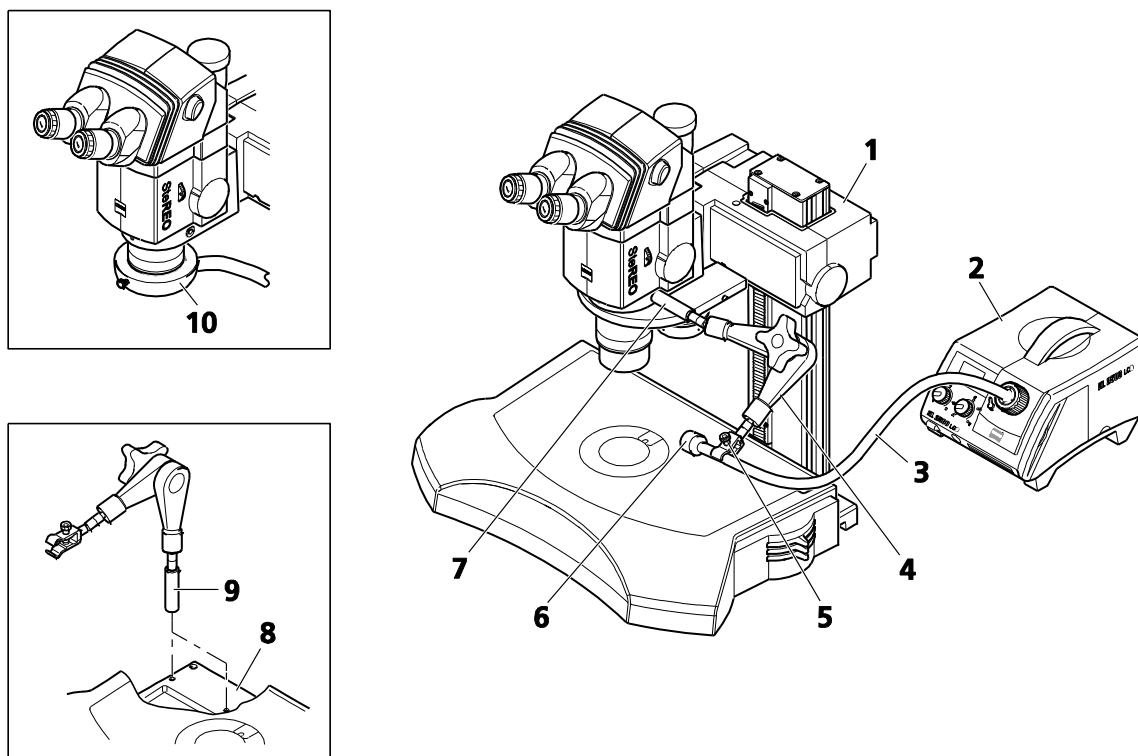

Fig. 12 Installing the incident-light illuminator
- **Flexible light guide with focusing attachment** (Fig. 12/3 and 6):
To be fastened to objective nosepiece, microscope carrier or stand base (Fig. 12/8) by means of the articulated arm and the clamp.
- **Fiber-optical ring illuminators and LED ring illuminators** (Fig. 12/10):
- Screw in the spacing rod (Fig. 12/7), if necessary.
- Hold the articulated arm (Fig. 12/4) in such a way that the label is correctly readable. Then, screw the clamp for the light guide (Fig. 12/5), the line light or the appropriate focusing attachment (Fig. 12/6) onto the upper end of the articulated arm.
- Screw the bottom end of the articulated arm (Fig. 12/4) into the spacing rod or one of the tapped holes on the stand. Tighten the tensioning screw on the articulated arm so that the latter can be used as lever.
- Connect the light guide (Fig. 12/3) to the cold-light source (Fig. 12/2).
The articulated arm may also be fixed to the stand base (Fig. 12/8). To this end, screw in the spacer (Fig. 12/9).
- Push the slit-ring illuminator (Fig. 12/10) onto the objective and clamp it by means of the knurled screw.
- Connect the light guide to the cold-light source (Fig. 12/2).